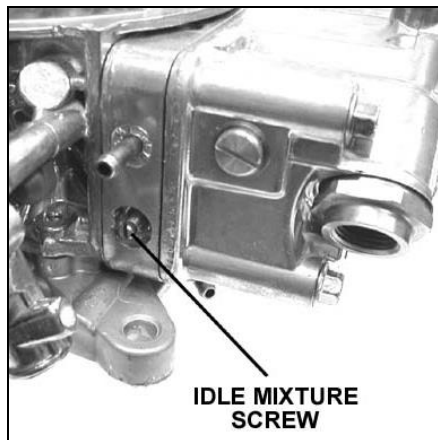

Figure 4
2. Adjust each idle mixture screw (Figures 4 & 5) 1/8 turn at a time, alternating between each screw. Turn them equally, until you achieve the highest possible vacuum reading without adjusting the curb idle speed screw. Turn screws in to lean the mixture. Turn them out to richen the mixture.